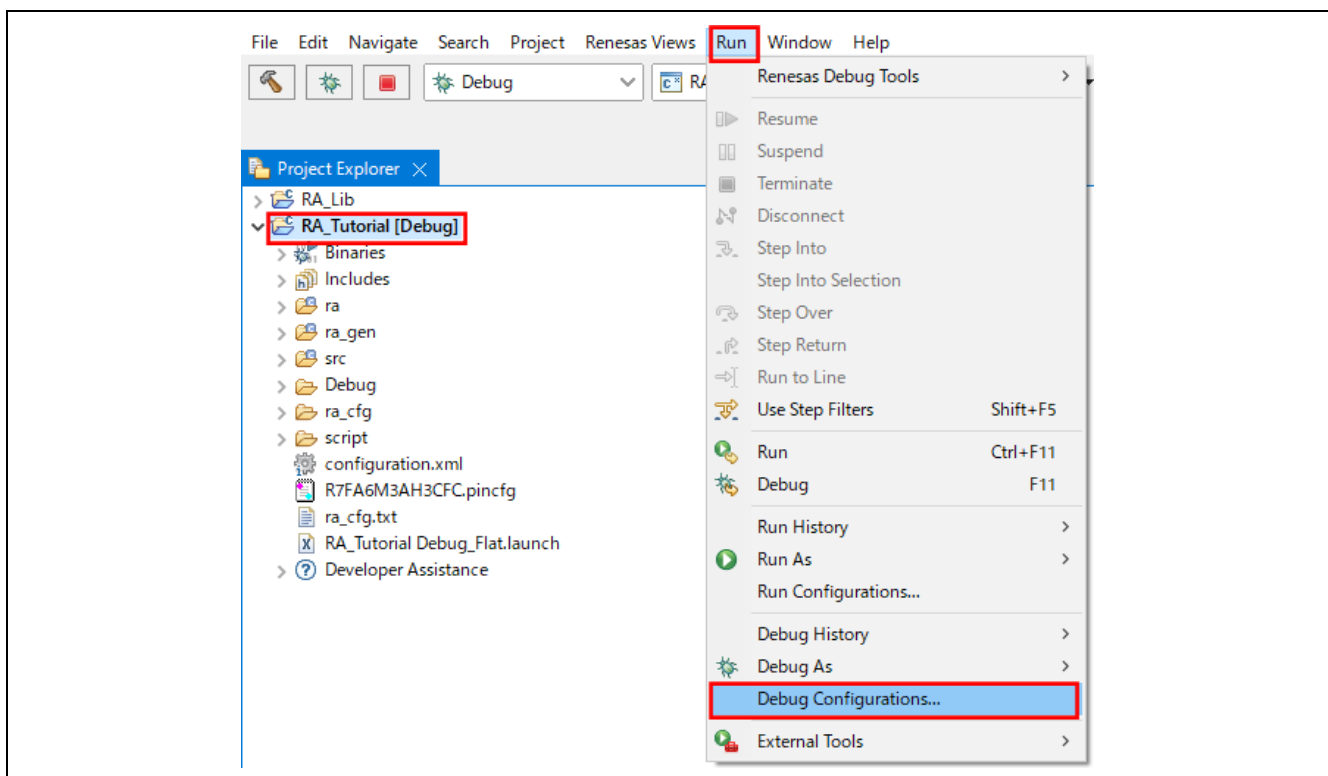

Figure 5-2. Debug – Opening the Debug Configurations Window
1. Open the **Debug Configuration** window (refer to Figure 5-2. Debug – Opening the Debug Configurations Window).
2. In the **Debug Configurations** window, select a debug configuration (for example, **RA\_Tutorial Debug**) and click the  icon (which duplicates the currently selected launch configuration). A new debug launch configuration (for example, **RA\_Tutorial Debug (1)**) is created.